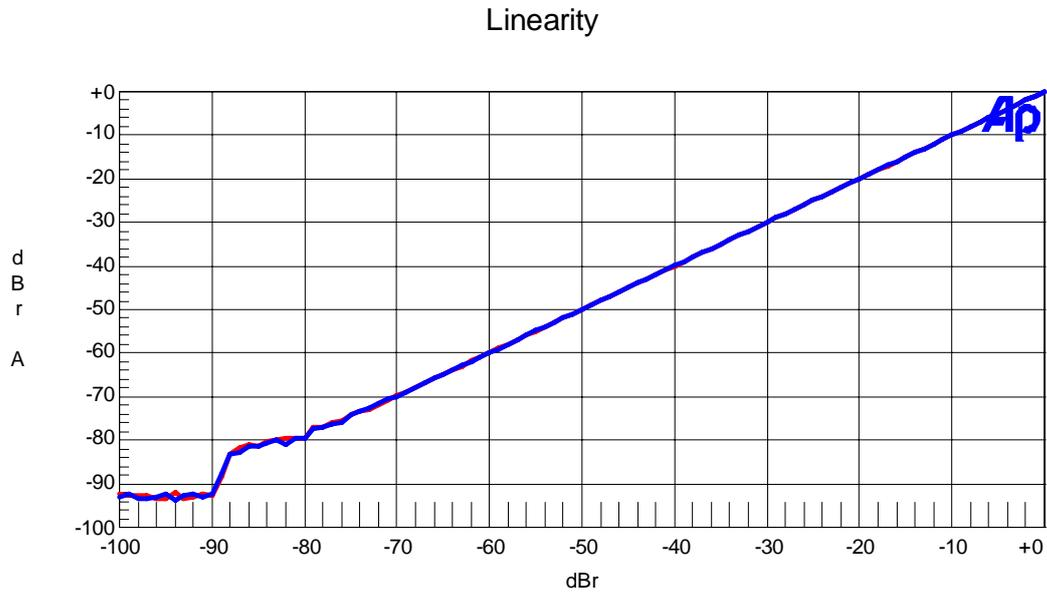

Figure. 11 Stereo mode Linearity (fin=1kHz)
- Figure. 11 : Linearity (1kHz)